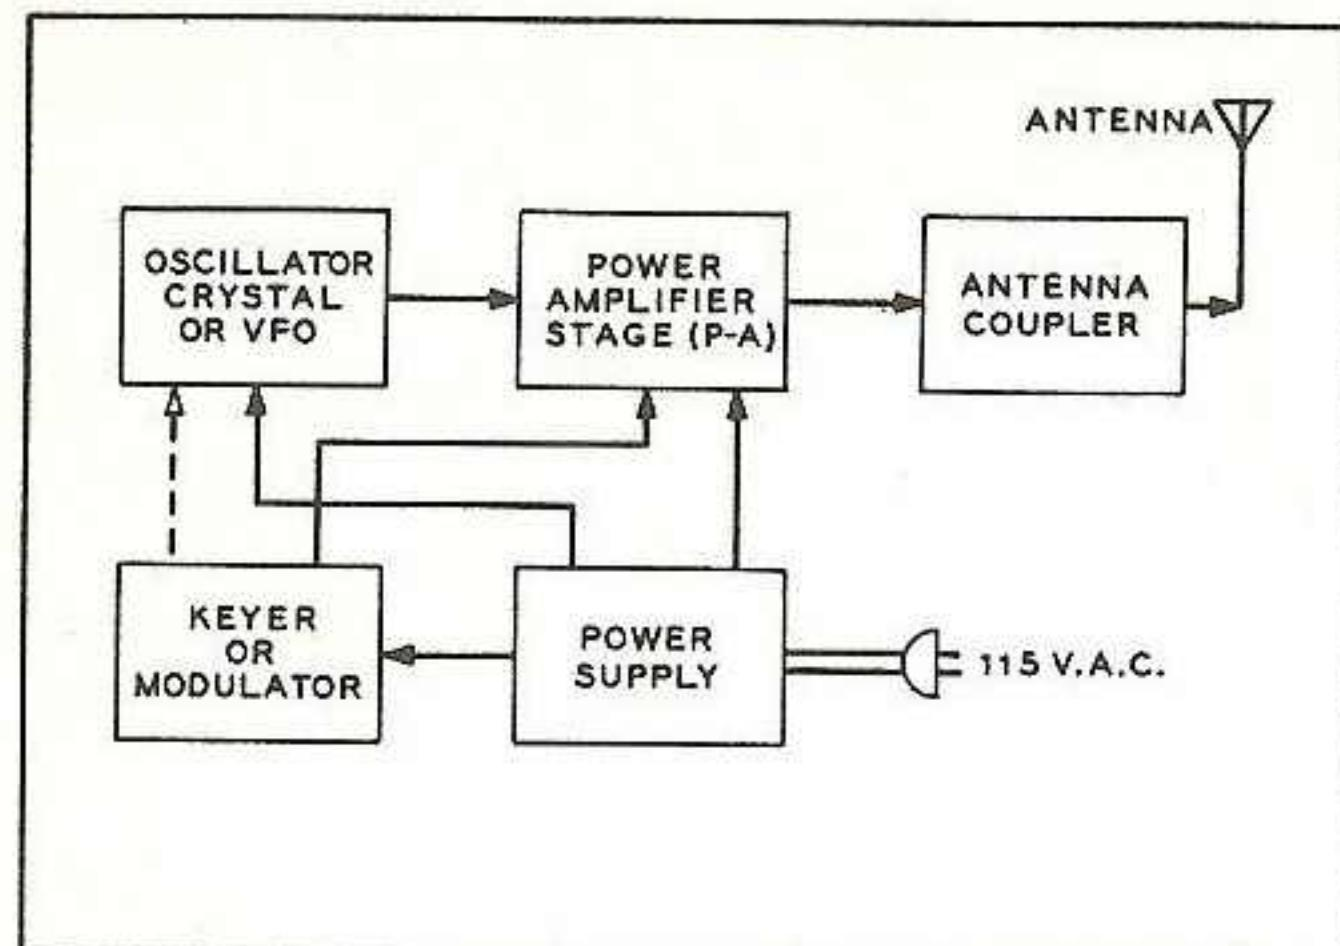
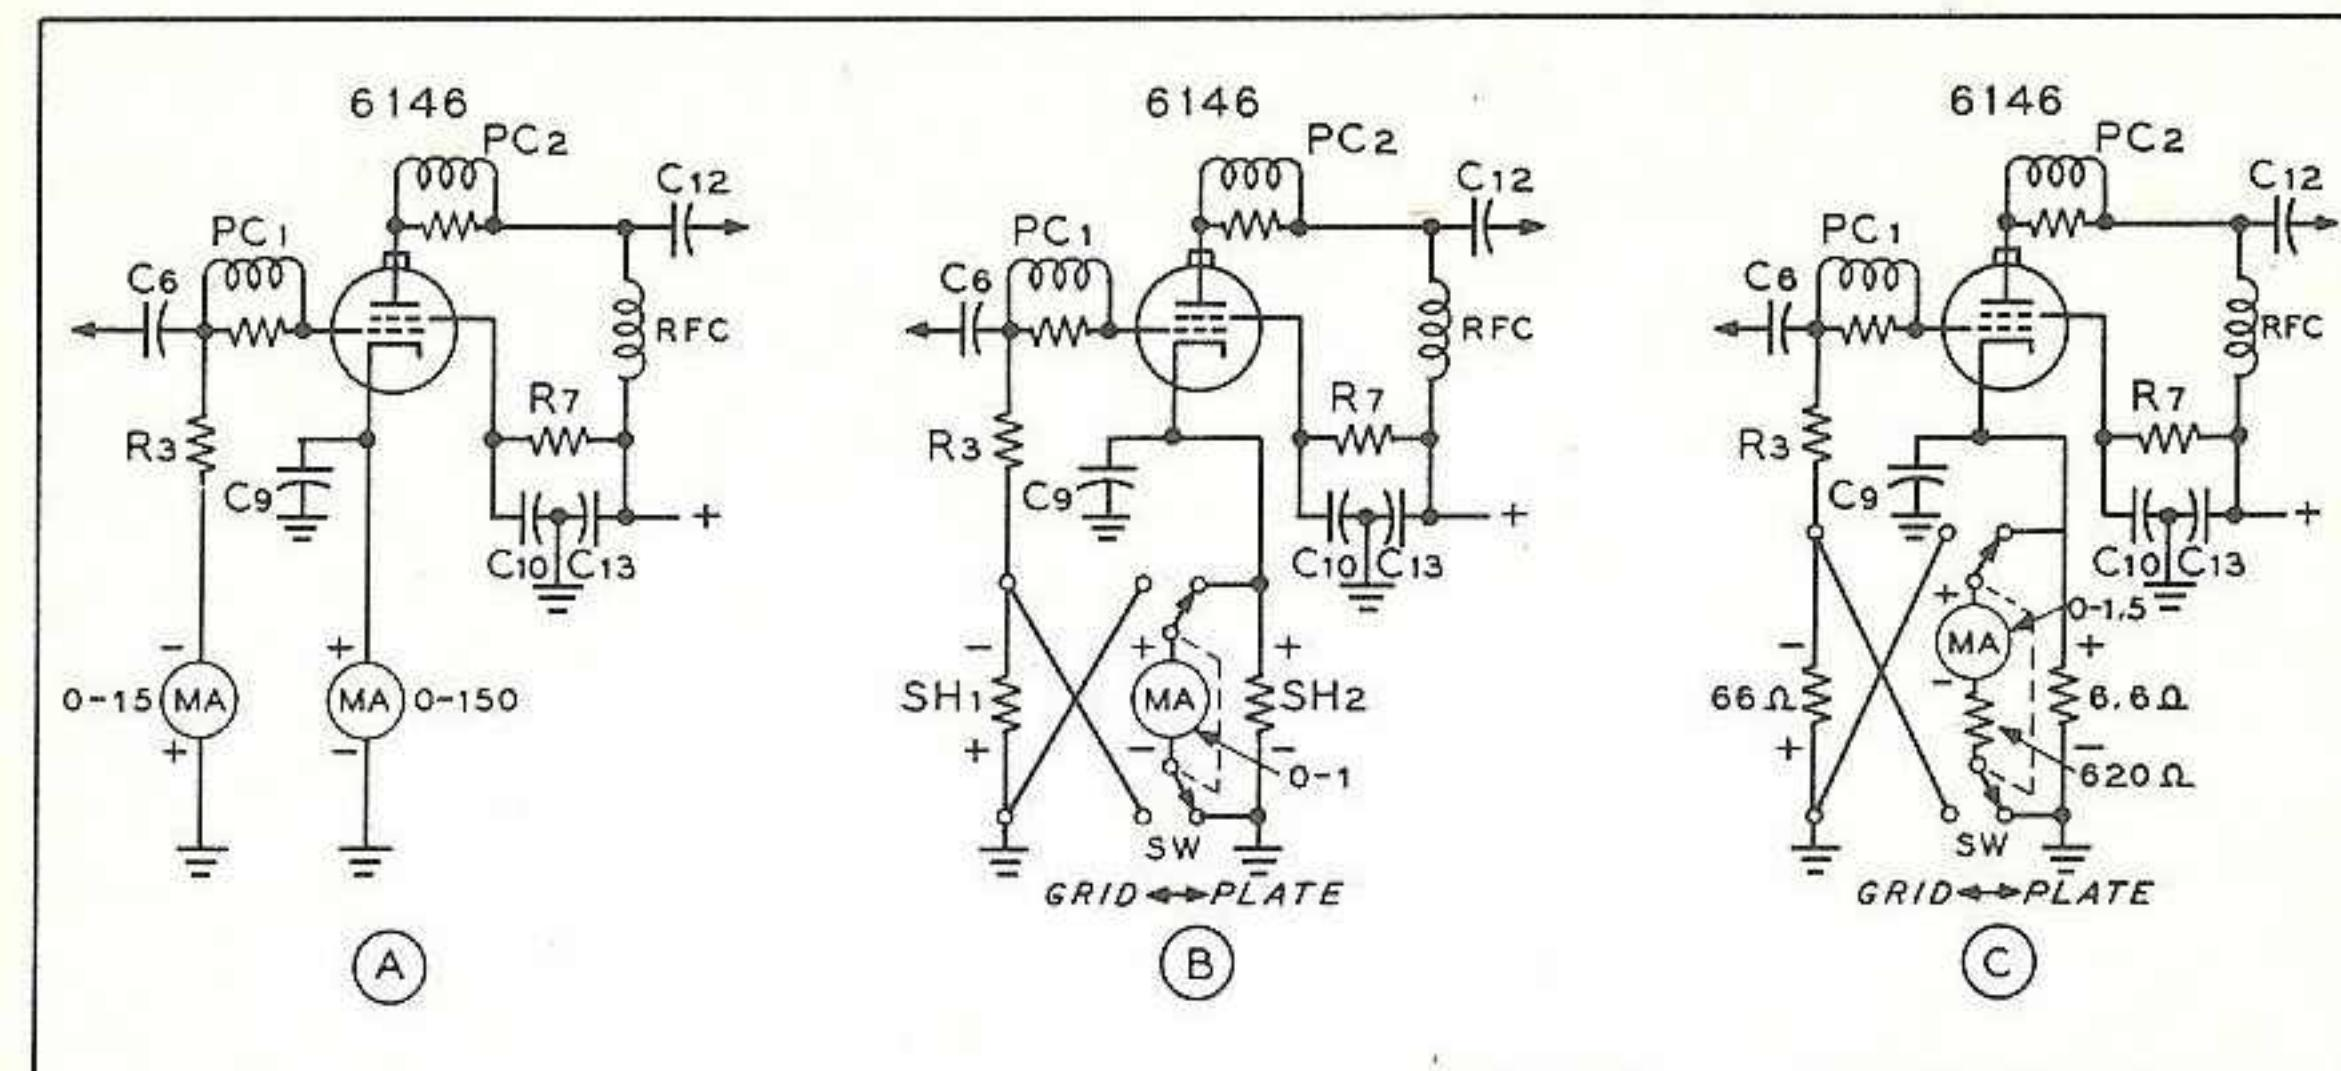
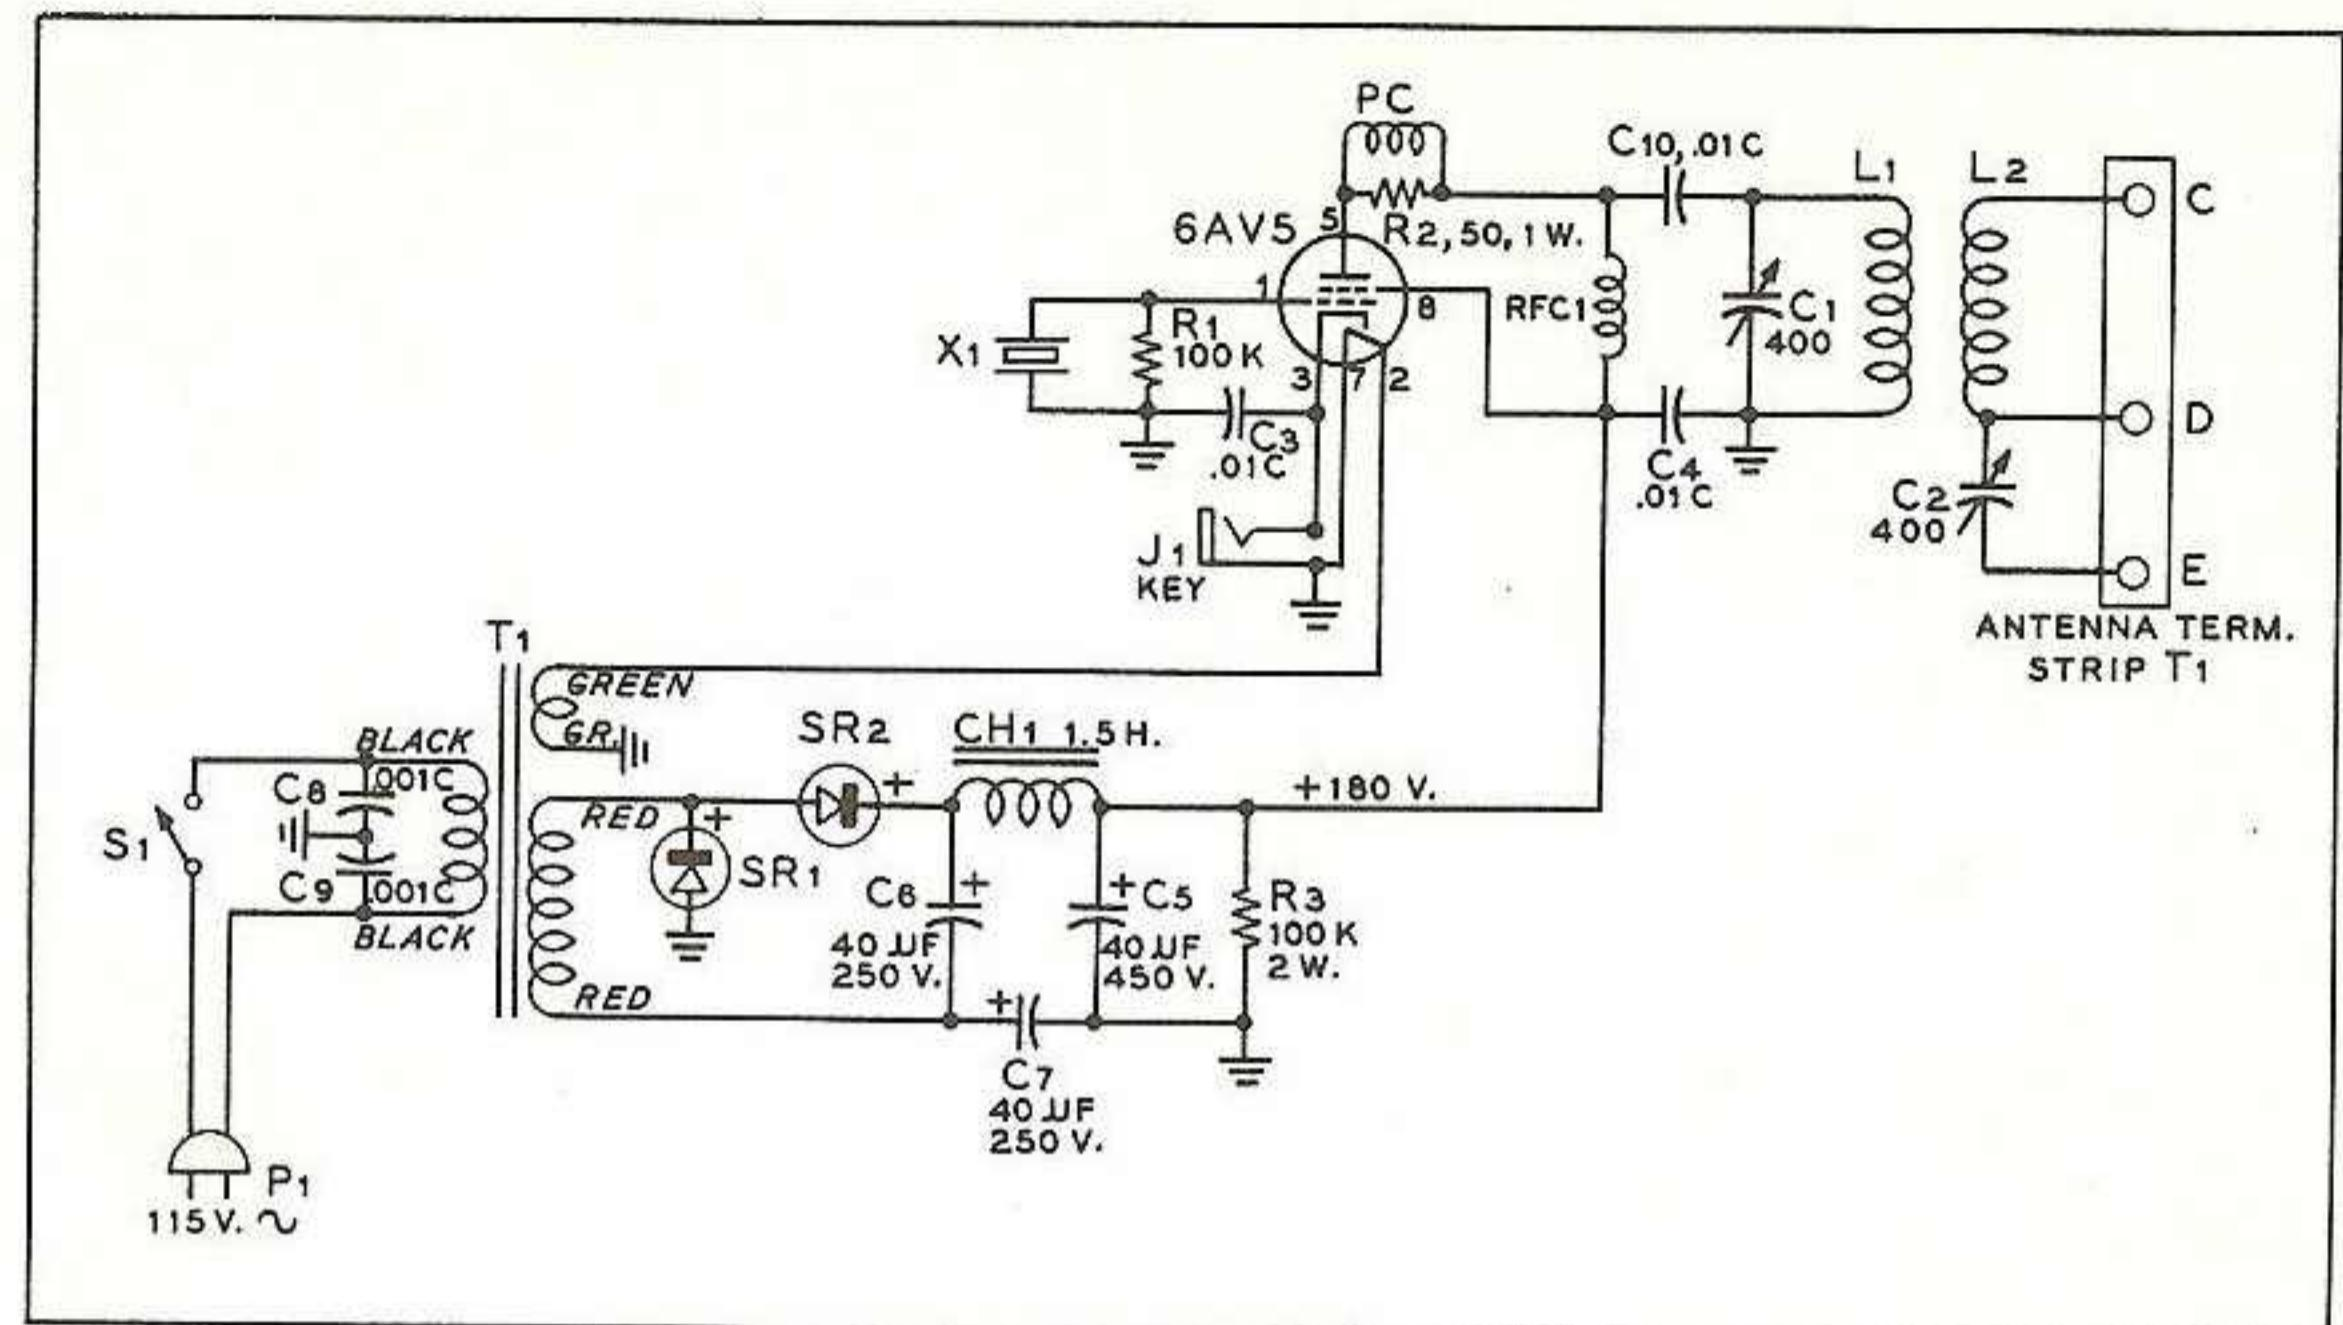

Fig. 1 Any modern transmitter is made up of five basic building blocks, discussed at length in the text.
Fig. 3 By the use of a suitable switching circuit, a single 0-1.5 d-c milliammeter may be used to measure grid and plate currents of an amplifier stage.
Fig. 2 Schematic of LJ-15 transmitter. Voltage-doubler power supply is used.
The fundamental parts of a simple transmitter are shown in Figure 1. The first building block is the *signal generator*, or *oscillator*. This circuit generates the radio signal at some specific frequency. In the case of the Novice, this frequency is crystal controlled. That is, the frequency is predetermined by using a mechanical resonator (quartz crystal) instead of a variable tuned circuit, such as shown in Figure 1, chapter 4. The quartz crystal has the same properties of frequency selection and rejection as does the tuned circuit—only more so! The frequency of operation is fixed by the physical dimensions of the crystal. In addition, the crystal has no knob to tweak to vary the frequency of resonance. When you use a crystal you are "rock bound" to one spot in the band. No amount of oscillator tuning will change the frequency of the stubborn crystal. An oscillator may be built which does not use a crystal, employing instead a variable resonant circuit of inductance and capacity for frequency determination. This gadget is termed a *variable frequency oscillator*, or *VFO*.
Another basic building block of the transmitter is the *keyer*, or *modulator*. This unit imposes the chosen intelligence upon the carrier wave. A simple telegraph key may be used for c-w transmission. A more complex modulator is required for phone transmission, and a whole room full of equipment is needed for radio teletype and television transmission. Various types of carrier modulation are shown in Figure 2, chapter 2.
Let's combine these basic building blocks into a complete, workable transmitter (Figure 2). This circuit is a simplified version of the all-band two
Fig. 2 A simplified diagram of the AB-60 transmitter shown in chapter 7. A 6AG7 harmonic crystal oscillator drives a 6146 amplifier-doubler stage. Good output may be obtained as high as eight times the crystal frequency. Operation of the complete circuit is covered in this chapter, as well as metering ideas.
The first additions to the basic transmitter of Figure 2 are metering circuits. Possible parameters to meter are the screen and plate currents of the oscillator, and the grid, screen and plate currents of the 6146 amplifier. The values of oscillator and amplifier screen and plate voltages are determined by power supply components, and need be checked only during the initial tuning process. Correct oscillator operation may be noted by measuring the value of grid current flowing through R3, so it is not necessary to measure the plate or screen current of the 6AG7 tube. Grid current measurement will also provide an important check on the operation of the amplifier stage.
Fig. 1 The "Little Jiffy" 15-watt transmitter is only 3"x5"x7" in size and uses a single 6AV5 tube. Antenna tuning capacitor C2 is at the right, with coils L1-L2 directly behind it. Antenna terminal strip is at far left, with power transformer T1 to the rear.
The schematic of the LJ-15 ("Little Jiffy fifteen watter") is shown in Figure 2. A 6AV5 pentode tube is used as a crystal oscillator, with a plate circuit covering both 80 and 40 meters. A simple antenna tuner (L2-C2) allows "Zepplin" tuned feeders, a low impedance transmission line, or end fed antenna systems to be used with equal ease. Several antennas for use with this transmitter are shown in chapter 9. The power supply consists of a half-wave transformer (T1) and a voltage doubler rectifier, using two selenium rectifiers (SR1 and SR2). The supply will deliver 15 watts to an intermittent load, such as provided by c-w operation. The complete transmitter is constructed upon the "top" of an aluminum box measuring 7" x 5" x 3". Placement of the major components may be seen in Figures 1 and 4, and in the chassis drawing layout, Figure 3.
- () Lay out the chassis holes (Figure 3) to be drilled on the paper wrapper of the chassis. Drill the holes and remove the burrs.
Fig. 3 Parts layout and chassis template for LJ-15 transmitter. Coil brackets for L1-L2 are shown at upper right. The test circuits are shown at the lower right.
- () Ground one pin of crystal socket X1 to the ground lug under the retaining nut. Connect a wire from this ground lug to pin 7 of the octal socket. phenolic tie-point (K) to the center, grounded terminal.
- () Install a .001 ceramic capacitor (C8) from one lug of the two terminal phenolic tie-point (K) to the center, grounded terminal.
- () Install a .001 ceramic capacitor (C9) from the other lug of tie-point strip (K) to the center, grounded terminal.
- () Install a 40 uf electrolytic capacitor (C7) between terminals 1 (plus) and 5 (minus) of the two four terminal strips (Figure 3).
- () Install a 40 uf electrolytic capacitor (C6) between terminals 4 (plus) and 8 (minus) of the two four terminal strips (Figure 3).
- () Connect a lead from terminal 1 of strip A to terminal 8 of strip B (Fig. 3).
- () Cut two coil support brackets from soft aluminum (Figure 3).